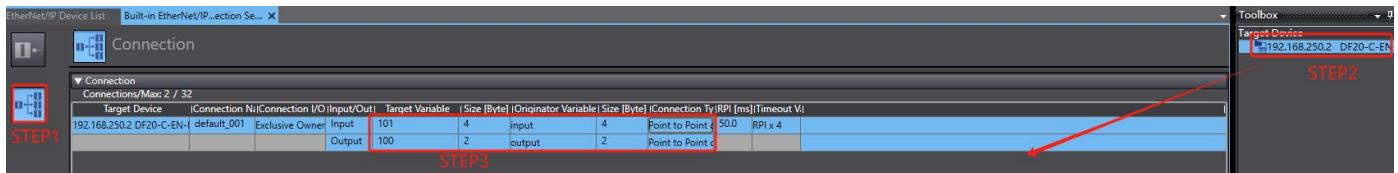

Figure 5-2-13
- Drag the target device "192.168.250.2 DF20-C-EN-IP Version 1" in the toolbox to the connection, as shown in Figure 5-2-13; configure the target device parameters, DF20-C-EN-IP input target variable is 100, output target variable is 101, input byte size is 4, output byte size is 2, and the start variable selects the